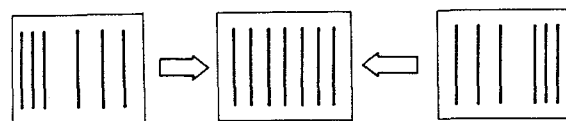

Fig. 21-7
2. Adjust H. LINEARITY by turning DA board RV6 (H LIN GAIN) as shown in Fig. 21-7.